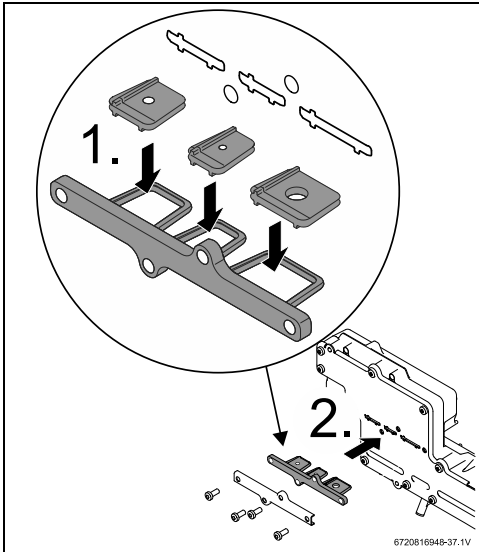

Fig. 48 199kBTU appliance gas conversion kit
- ▶ The 3 restrictor plates should be pre-assembled onto their tray, but if loose in box, follow installation instructions, as shown in fig. 48 and 49[1].
- ▶ Insert the LP conversion plate in the appropriate location shown in fig. 48 and 49 [2].
- ▶ All three flow restrictors and seal must be assembled according to the fig. 48 and 49, to assure correct appliance performance.